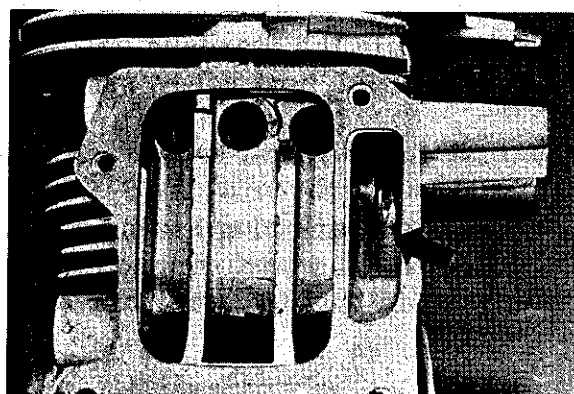

FIGURE 2
- A. It entered the cylinder through the third port cavity. There is a dent in the bottom of the cavity to show this clearly (figure 2).